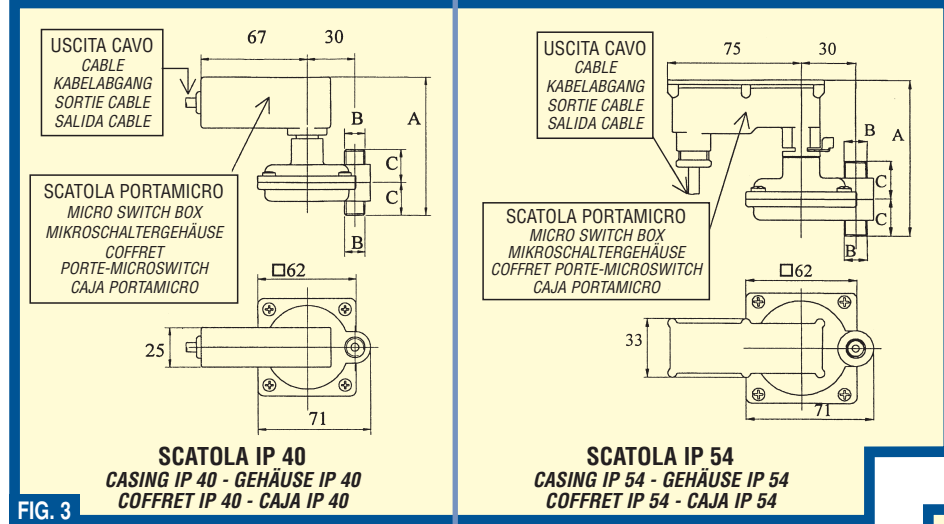

FIG. 3
- Fig. 3: **Casing IP40:** is connected to the pressure switch with a 4 screw closure of the box.